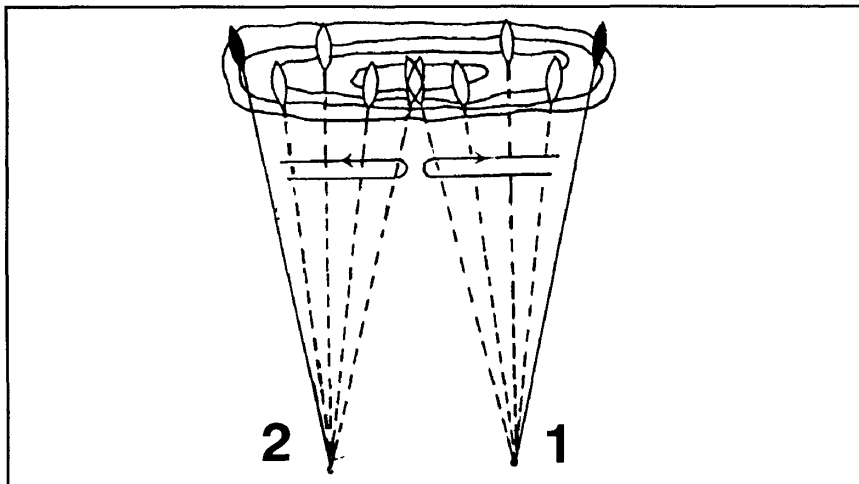

Figure 6-14. Engagement of area targets with a pair of automatic riflemen.
(1) *Area Targets.* When using pairs of M249s to engage area targets, the automatic rifleman on the right fires on the right half, and the automatic rifleman on the left fires on the left half. The point of initial aim and adjustment for both automatic riflemen is on the midpoint. After adjusting fire on the center of mass, both automatic riflemen distribute fire by applying direction and elevation changes that give the most effective coverage of the target area. The right automatic rifleman traverses to the right, applies the necessary amount of search, and fires a burst. He traverses and searches up and down until the right flank of the area target has been reached. The left automatic rifleman traverses and searches to the left flank in the same way. Both automatic riflemen then reverse the direction of manipulation and return to the center of mass, firing a burst after each combined direction and elevation change (Figure 6-14).